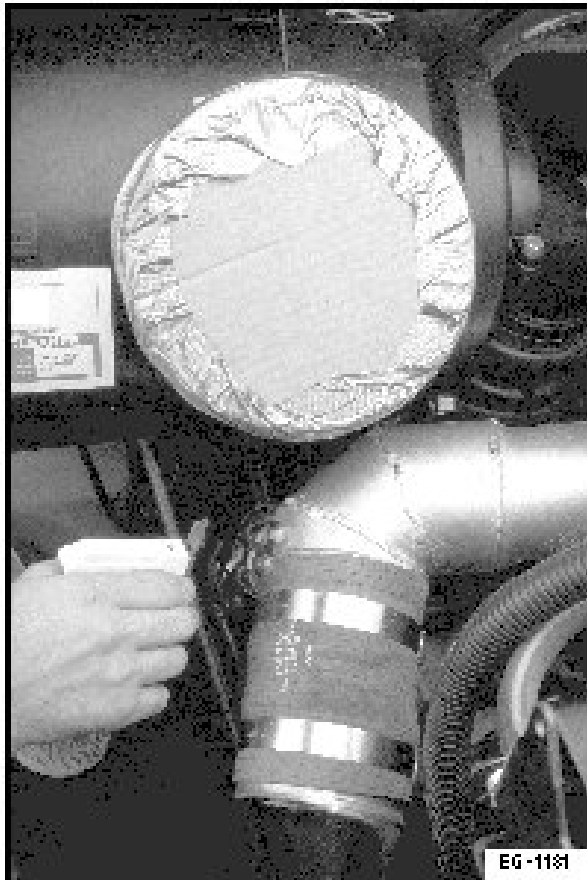

Figure 34 Checking For Air Induction System Leakage
5. Coat areas **a** through **f** listed below with a soap solution and check for leaks: refer to Air Induction System Leakage (See Figure 34, page 59).